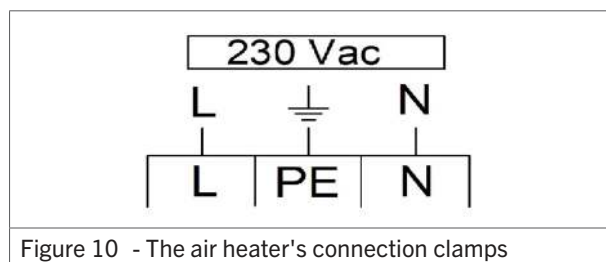

Figure 10 - The air heater's connection clamps
- Connect the wires of the mains cable to the clamps in the connection box (figure 10).